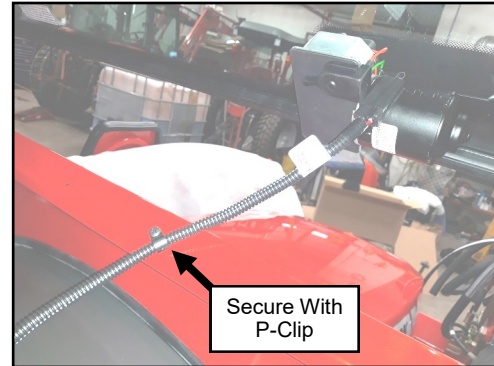

Fig. 16.1 (Attach Main Harness To Cowl)
- 16.1** Attach the main power wire harness to the windshield wiper connector, and secure to the cowl using a P-clip and hardware. Route the wire over the top of the wiper motor and make sure there is enough slack to fully open the windshield. See Figure 16.1.